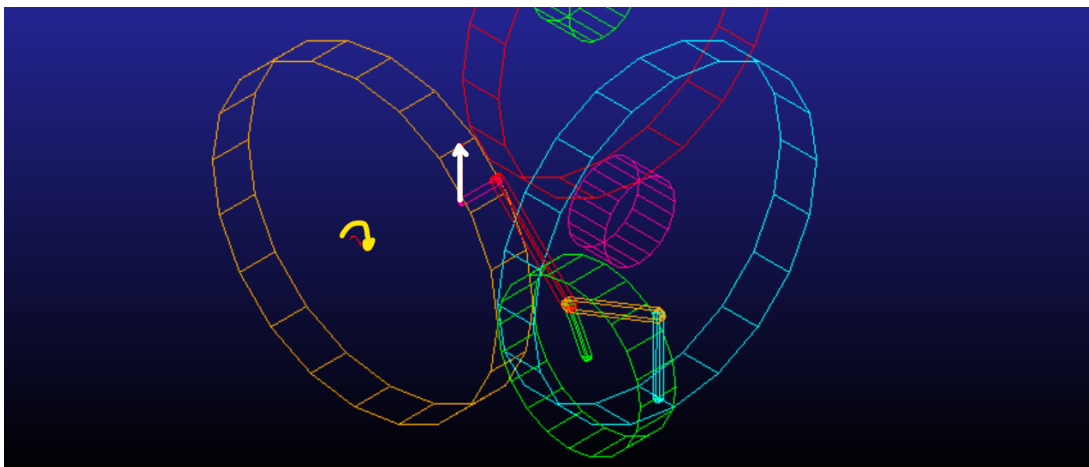

Fig. 1: Mechanism and Force applied
1. Position 1 In fig 1, the white arrow indicates the force applied on the output link whose magnitude